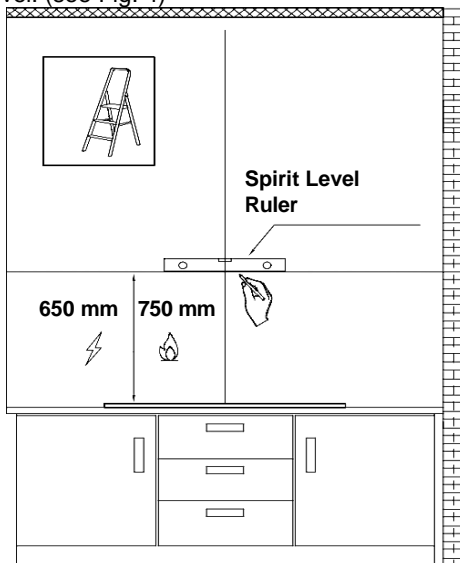

Fig. 4
3. First use a pencil to mark the installation position on the wall, then use a Measuring Tape to measure the height from the stove surface to the hood (the center point of aluminum grease filter) and use a Spirit Level Ruler to maintain the level, then use a pencil to draw a horizontal line along the level. (see Fig. 4)